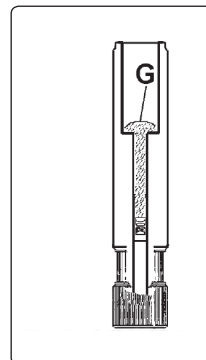
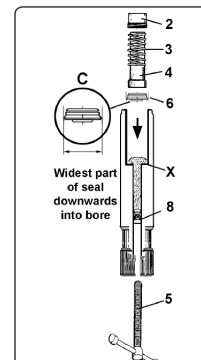

fig.6
fig.7
- 5.2.6. Pour 15gm of oil into the bore (fig.6). Insert larger seal (fig.7.6) as shown, with the widest part of the seal facing downwards into the bore. Push down into main cylinder as far as 'X' (fig.7) followed by piston (fig.7.4) and spring (fig.7.3).